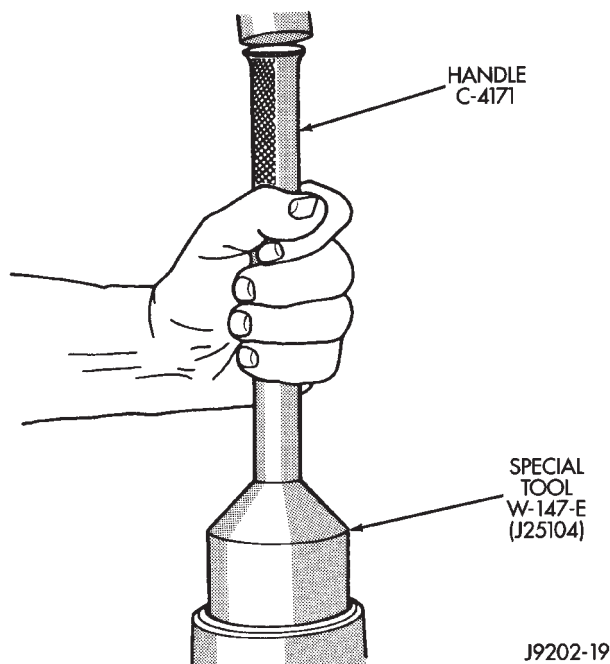

Fig. 55 Pinion Seal Installation
(5) Install pinion front bearing and oil slinger. Apply a light coating of gear lubricant on the lip of pinion seal. Install seal with Installer W-147-E and Handle C-4171 (Fig. 55).